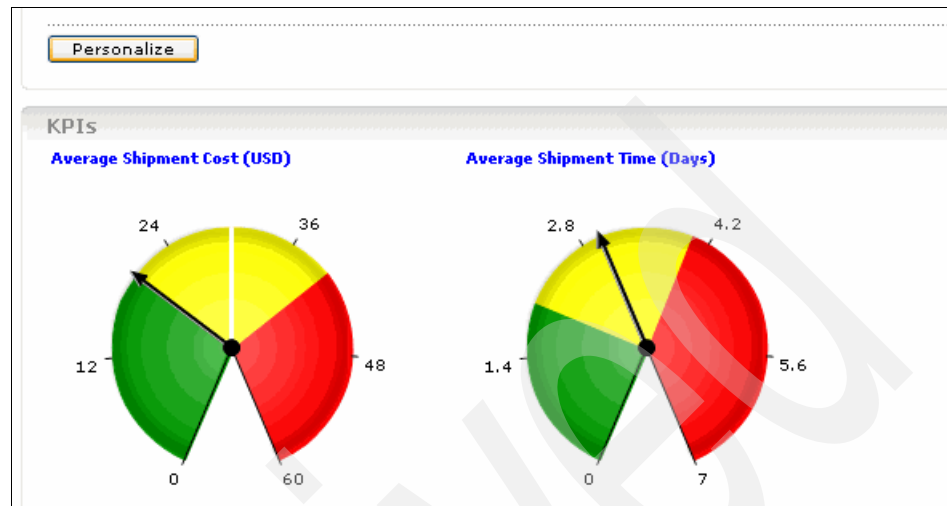

Figure 9-61 Resultant KPI
3. Further customization of the portlet is possible to better reflect the KPIs captured. Figure 9-61 shows another view of the portlet.